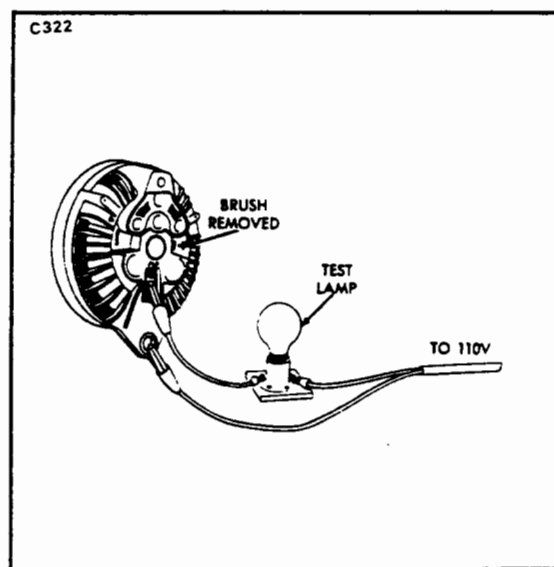

Figure 11-20. Testing Field Circuit
a. Remove the ground brush and using a 110-volt test lamp, place one test probe to a machined surface at one of the alternator end shields. (Refer to Figure 11-20.) The test lamp should not light.